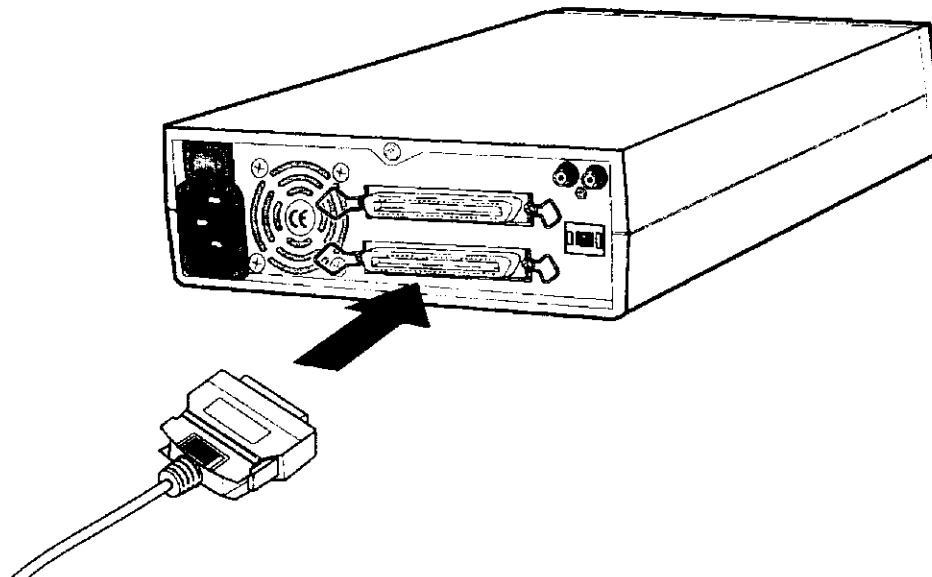

Figure 16. Connecting the Interface Cable to the External CD-Recorder
5. **Connect the 50-pin Centronics SCSI connector on the interface cable to either of the two SCSI connectors on the rear panel of the CD-Recorder (Figure 16).**